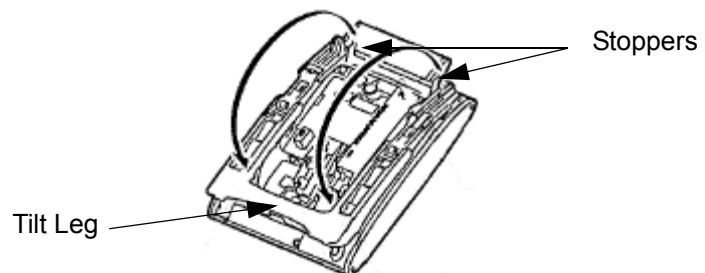

Figure 5-150 Separate Tilt Leg from Leg Support
3. Lower the tilt leg to the first position (refer to Figure 5-150 Separate Tilt Leg from Leg Support).